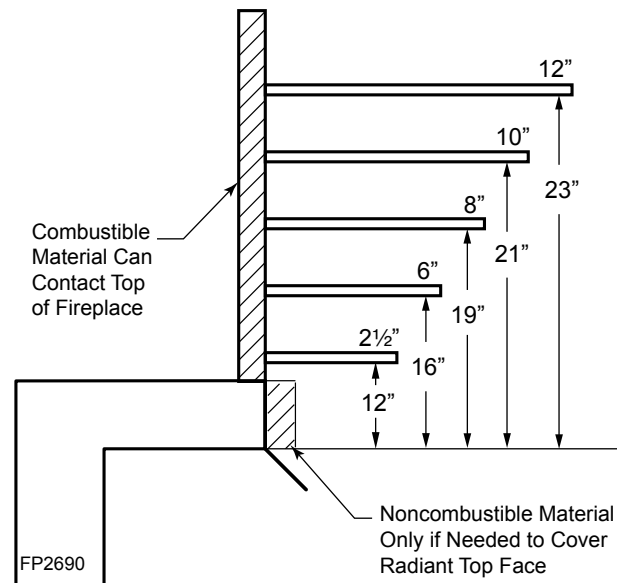

Figure 6.2 Mantel Clearances
4. **Mantel clearances:** If a combustible mantel is installed, it must meet the clearance requirements as shown in Figures 6.2 & 6.3.